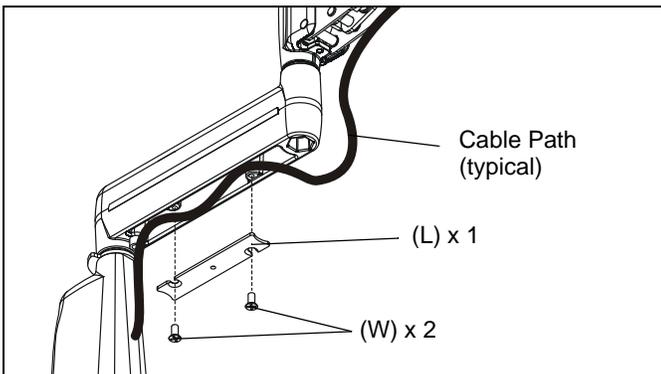

Figure 54
4. Carefully insert cables in cavity located in lower portion of mount arm. (See Figure 54)
5. Using Phillips screwdriver, install cover (L) with two #8-32 x 3/8" Phillips flat screws (W). (See Figure 54)